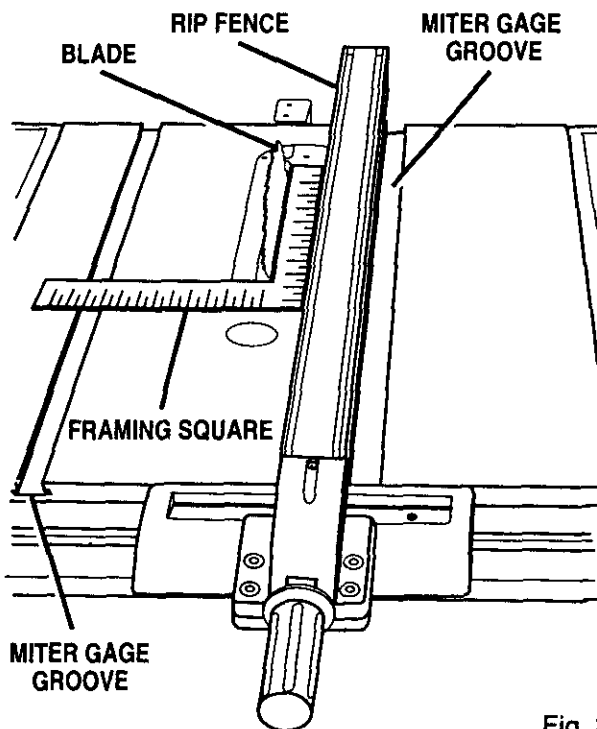

Fig. 34
See Figures 34, 35, and 36.
- Place a framing square against the rip fence, with the long end towards the front of the blade. See Figure 34. Measure the distance from the rip fence to the edge of the blade.